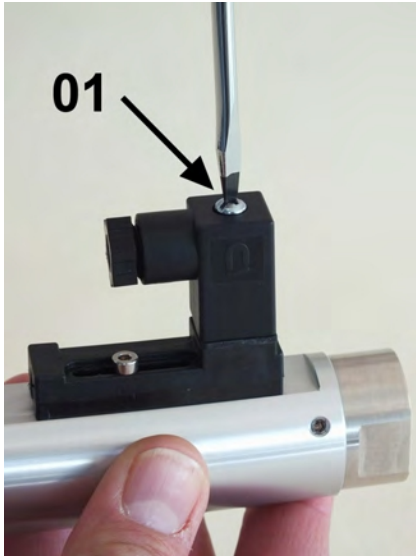

Fig. 52: Loosen female socket
1. ➤ Loosen the fixing screw of the female socket (Fig. 52/01) with a flat-bladed screwdriver.